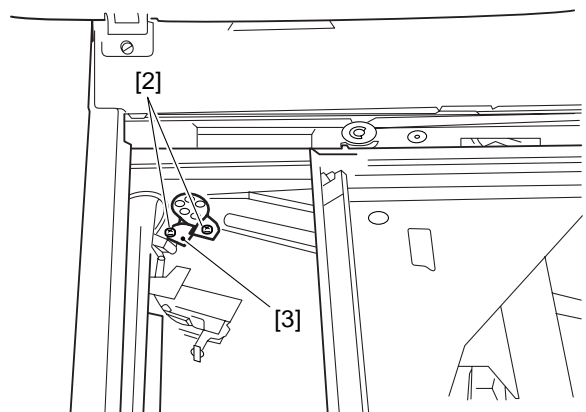

Figure 3-403
- 4) Remove the two screws [2] that hold the pulley mount [3] in place; see Figure 3-403.